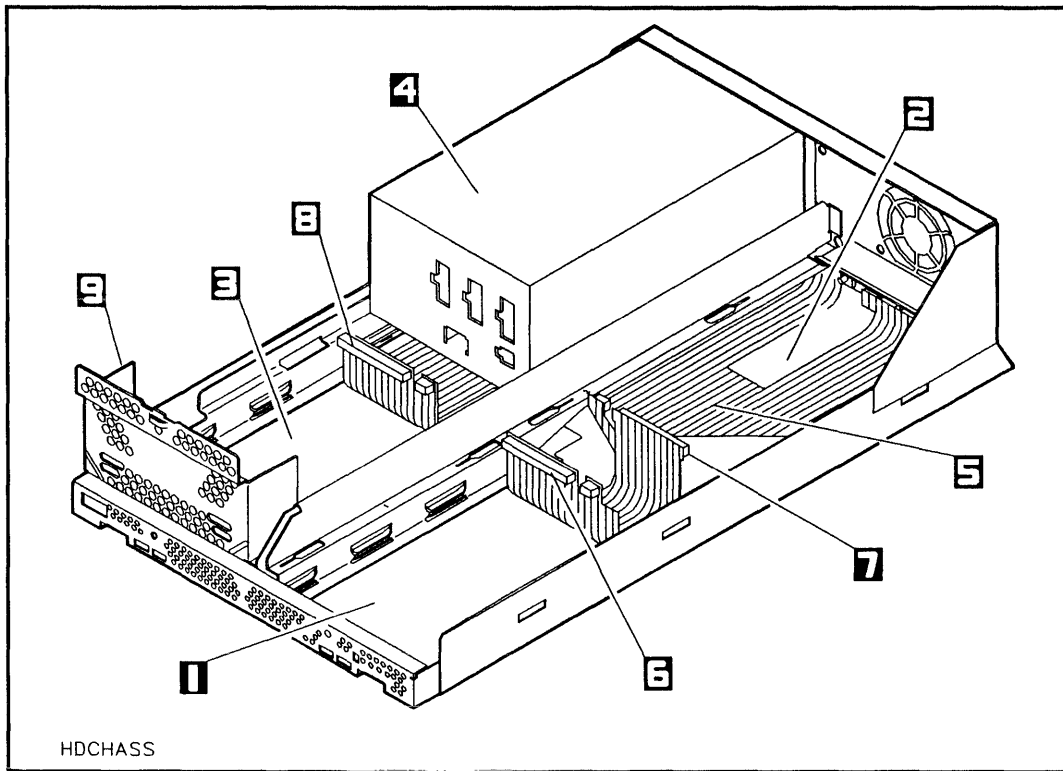
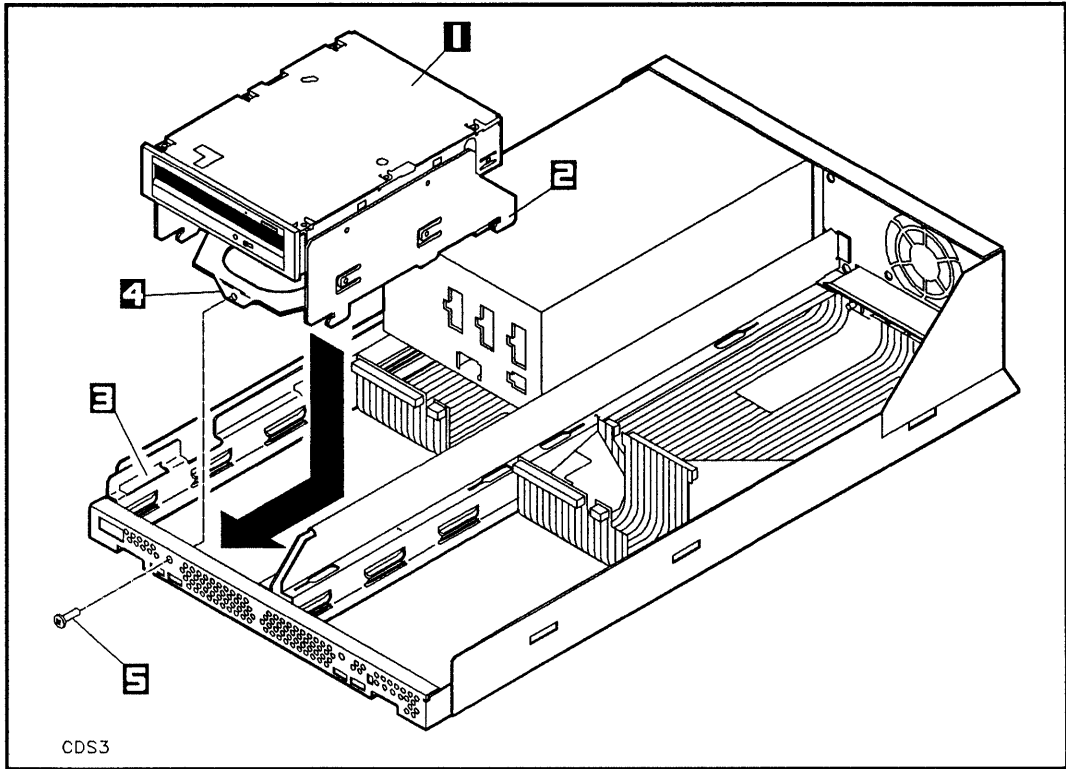

Figure 4-10. Mass Storage System Chassis
Figure 4-11. Installing a CD-ROM Drive
1. Hold the BEND/flex cable out of the way with one hand, and lift the CD-ROM drive or drives in the mounting bracket from the conductive sheet and lower the bracket mounting tabs into the mounting slots in the chassis rails (see Figure 4-10 and Figure 4-11).
3. Tighten the T25 screw through the hole in the mass storage system chassis and into the securing tab (see Figure 4-11).